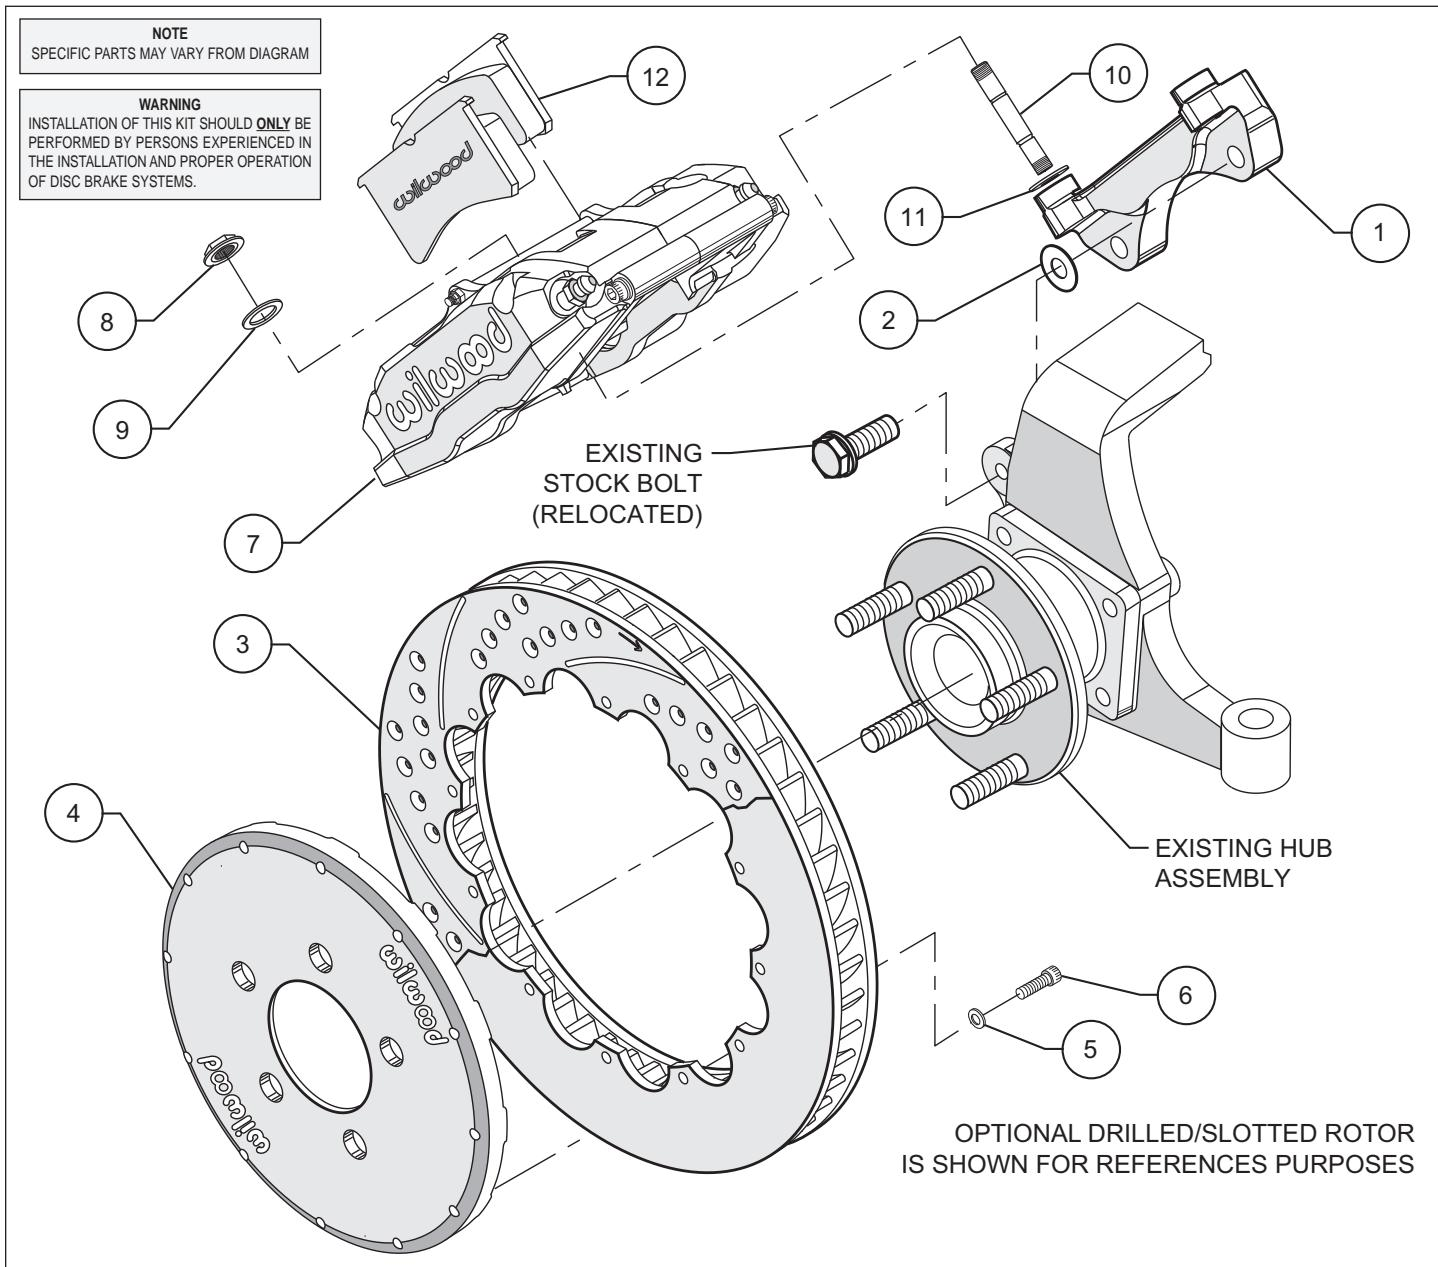
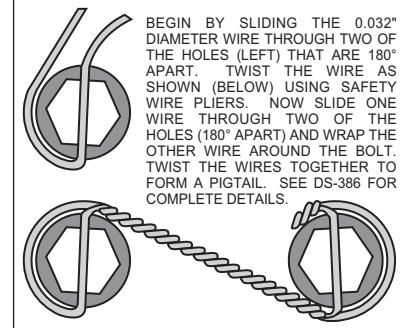

Figure 1. Typical Installation Configuration
Figure 3. Safety Wire Diagram
• The caliper mount bracket assembly (1) should be installed first with clean, dry threads on the mounting bolts. Install the bracket using the original caliper mount bolts. The bolts will now pass through the spindle from the opposite direction that they were removed (see figure 1). The bracket must tighten squarely against the inboard side of the caliper mount bosses on the spindle body. Inspect for interference from casting irregularities, machining ridges, burrs, etc. Use one thin shim (2) between the bracket and spindle during initial trial fitting. Later, after the caliper, pad, and rotor alignment has been checked, and any necessary shims have been put in place, the mount bolts should be coated with red *Loctite*® 271 and torqued to 65 ft-lbs.
• Assemble the rotor (3) to the hat (4) with the bolts (6) and washers (5) provided in the configuration pictured in figure 1. Be sure all bolts thread in smoothly and are snug. Then, torque all bolts in an alternating sequence to 85 in-lbs. Safety wire bolts (6) using standard 0.032 inch diameter stainless steel safety wire as shown in Figure 3. Please refer to Wilwood's data sheet DS-386 (available at [www.wilwood.org/ds386.pdf](http://www.wilwood.org/ds386.pdf)) for complete safety wire installation instructions.